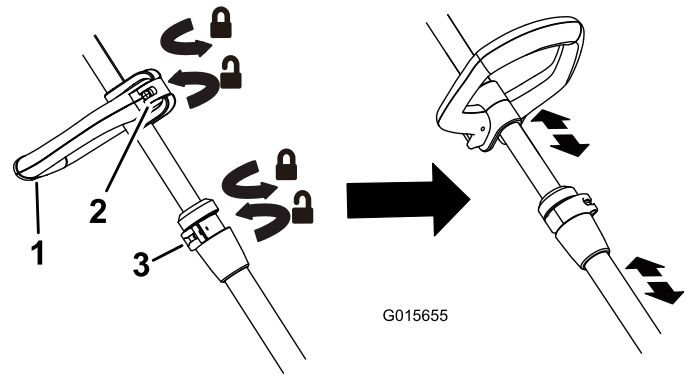

Figure 4
- To adjust handle height, flip the auxiliary handle latch, slide it up or down to the desired height, then secure it in place by closing the latch (Figure 4).
- To adjust the trimmer height, open the height adjustment latch, then slide the shaft up or down to desired height, securing it in place with the latch (Figure 4).